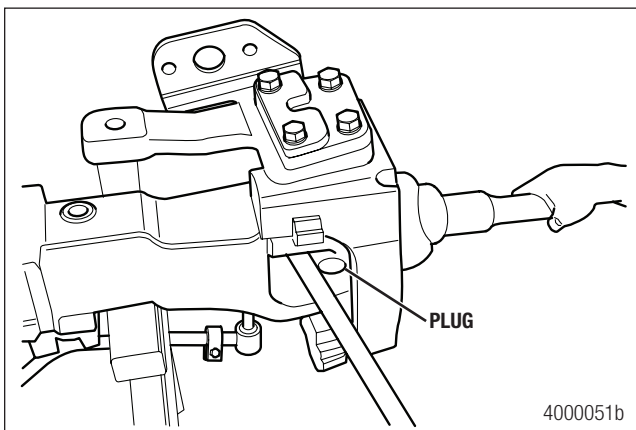

Figure 7.15
5. Install the axle shaft and universal joint assembly through the steering knuckle. Figure 7.15.